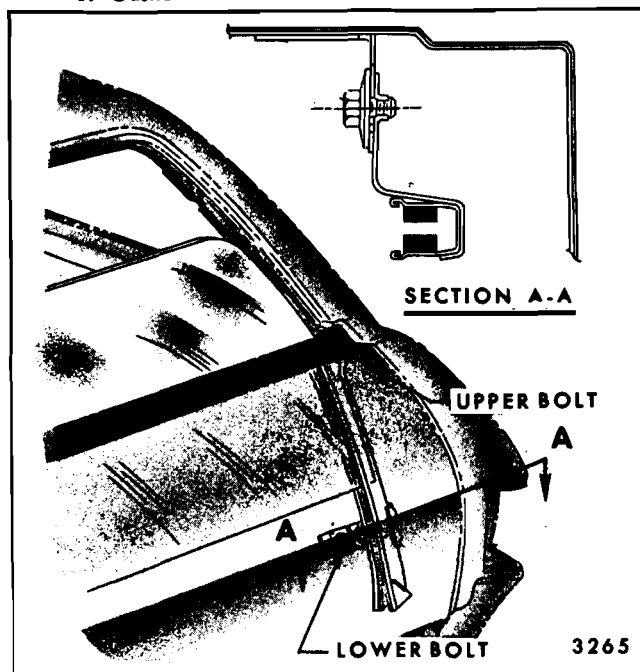

Fig. 9-19—Tail Gate Lower Glass Run Channel Attachment
3. Remove lower attaching bolt - accessible through inner panel access hole (Fig. 9-19).